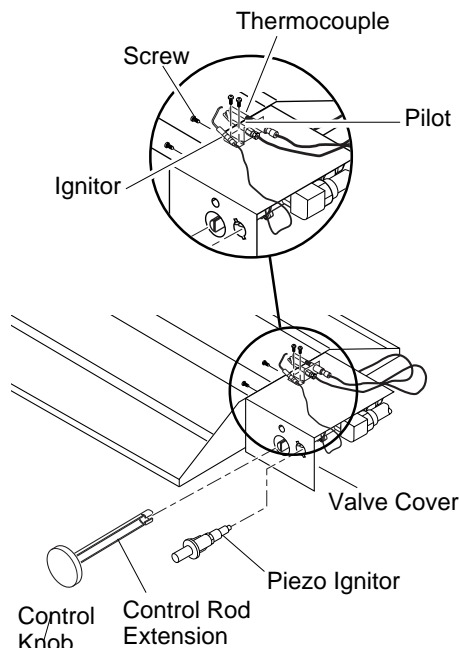

**Figure 11 - Gas Control Valve with Thermocouple and Pilot**
- Attach the pilot gas line to the pilot outlet of the gas control valve and tighten. Connect the thermocouple to the rear of the gas control valve. See Figure 11. Do not overtighten. If using propane/LP gas, see *Changing Pilot Orifice*, page 11.